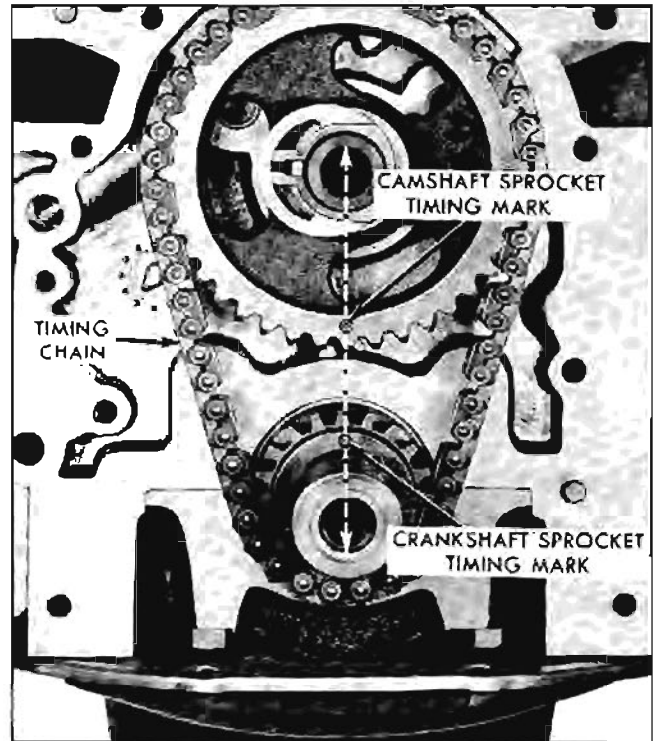

Fig. 6-101 Timing Marks
3. Temporarily install harmonic balancer bolt and washer in end of crankshaft. Turn crankshaft so sprockets are positioned as in Fig. 6-101. Doing so will make it easier to reinstall parts. Remove harmonic balancer bolt and washer being careful not to change position of sprockets.
2. Turn camshaft with sprocket temporarily installed so "O" mark is straight down (Fig. 6-101). Remove sprocket.
3. Assemble timing chain and sprockets and slide sprocket and chain assembly on shafts with the "O" marks in their closest together position and in line with sprocket hubs (Fig. 6-101).